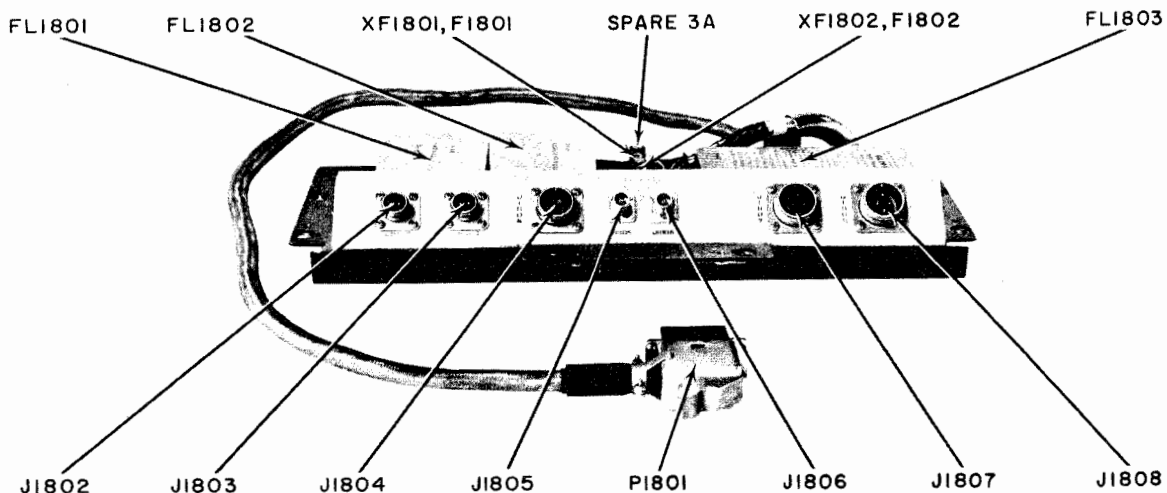

Figure 5-81. Demodulator Blister, Location of Parts
b. ACCESS.—The demodulator blister is at the rear of the demodulator cabinet. For access, simply open the demodulator drawer. This will not break connections. Figure 5-81 shows the location of parts.